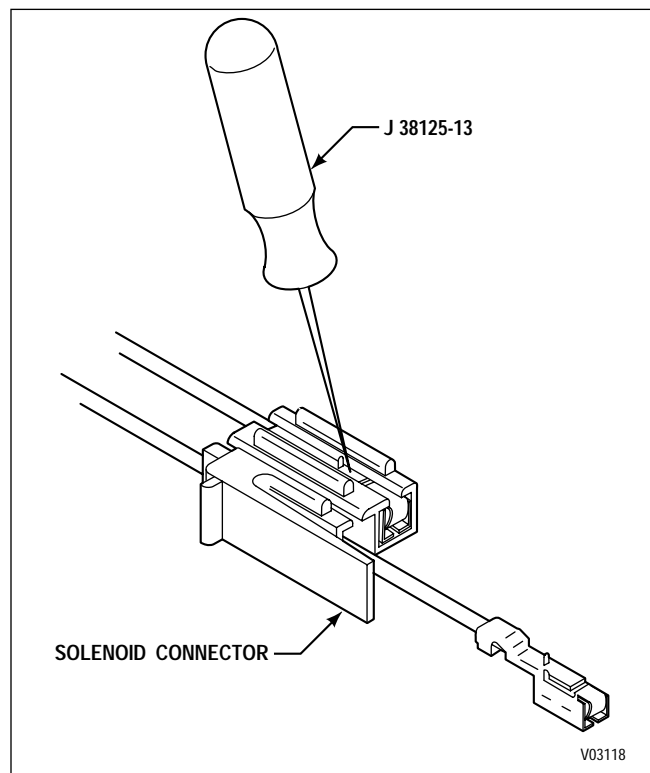

Figure 6–22. Terminal Removal
- (1) Remove snapping 9 from feedthrough seal 10.
- (2) Disconnect two connectors 8 from solenoids 7.
- (3) Remove the terminals from connectors 8 as follows:
- Using remover tool J 38125-13, depress locktab on terminal (accessible in slot of connector) and push the terminal out front of the connector (Figure 6–22).
- (4) Remove harness 11 from transfer plate 14.
- (5) Remove a pipe plug 12 and a pin 13 for each solenoid 7 and remove the two solenoids.